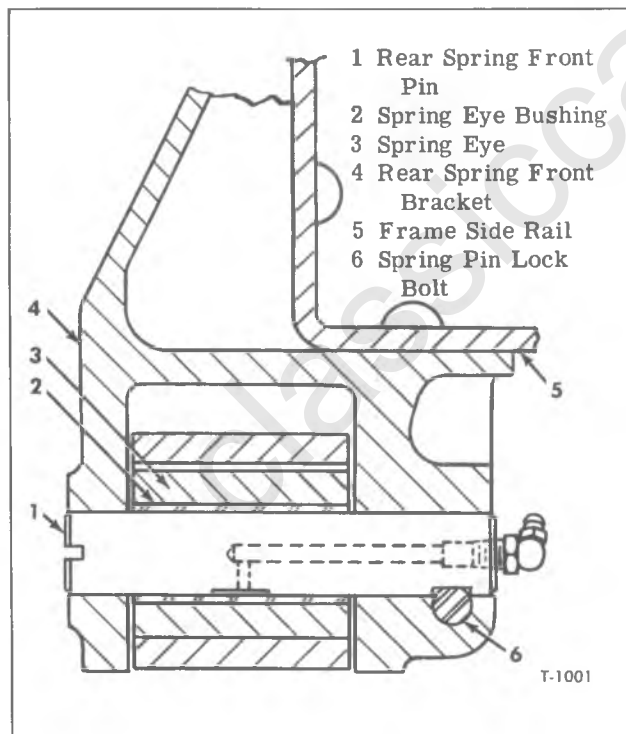

Figure 8—Section Through Spring Eye and Front Bracket (Typical)
5. Install spring eye pin through bracket and spring eye, with milled flat near end of pin aligned with lock bolt hole in bracket. Use a soft hammer to drive pin in from outer side. Install spring front pin lock bolt and nut with washer and tighten firmly. Install lubrication fitting in inner end of eye pin. Figure 8 illustrates section through pin, spring eye, and frame bracket.